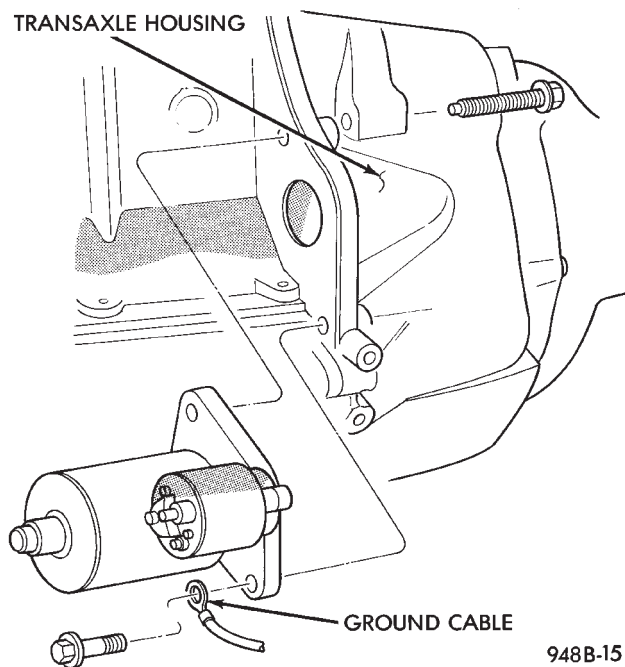

Fig. 33 Starter Bolts
(23) Remove lower starter bolt (Fig. 33).